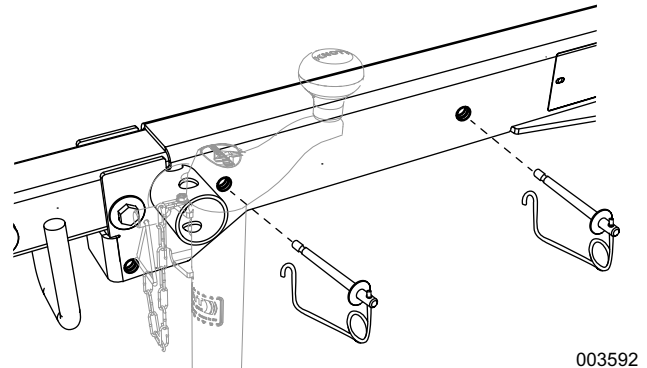

Figure 2-10. Install and Secure Pins
7. See Figure 2-10. Install pins as shown to secure trailer tongue in tow position.